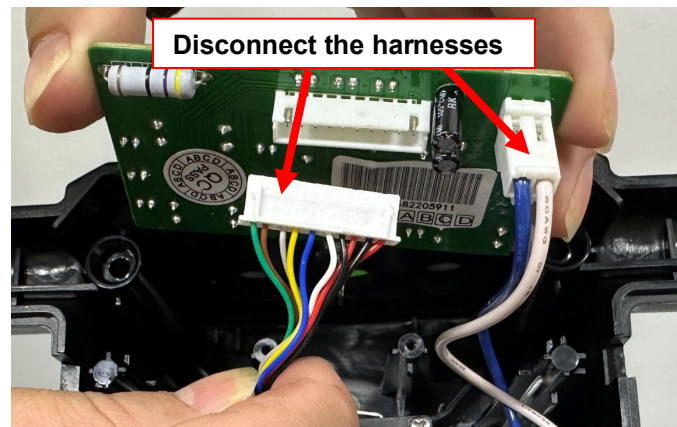

Figure 12
11. Disconnect all harnesses and terminals connected to the Dashboard (Figure 12).